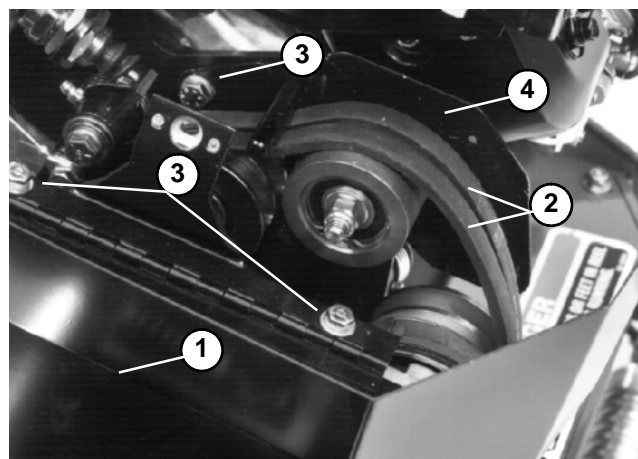

Figure 34
2. Remove interference to brake band (Fig. 34).
6. Reinstall interference previously removed (Fig. 34).